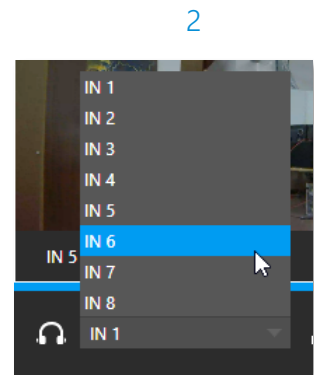

FIGURE 31
1. The audio source supplied to the *Headphone* jack can be selected using the menu next to the *headphone icon* (Figure 31).